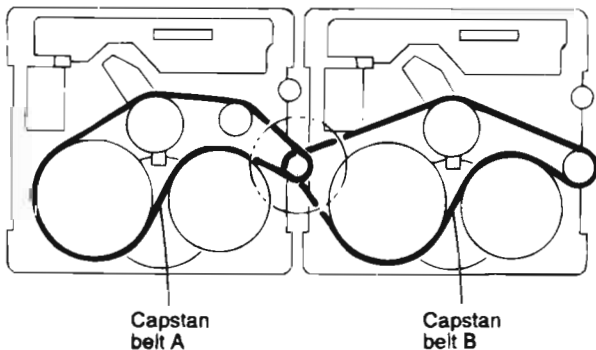

Fig 6
2. While raising the capstan motor, remove the capstan belts A and B respectively from the motor pulley (See Fig 6).